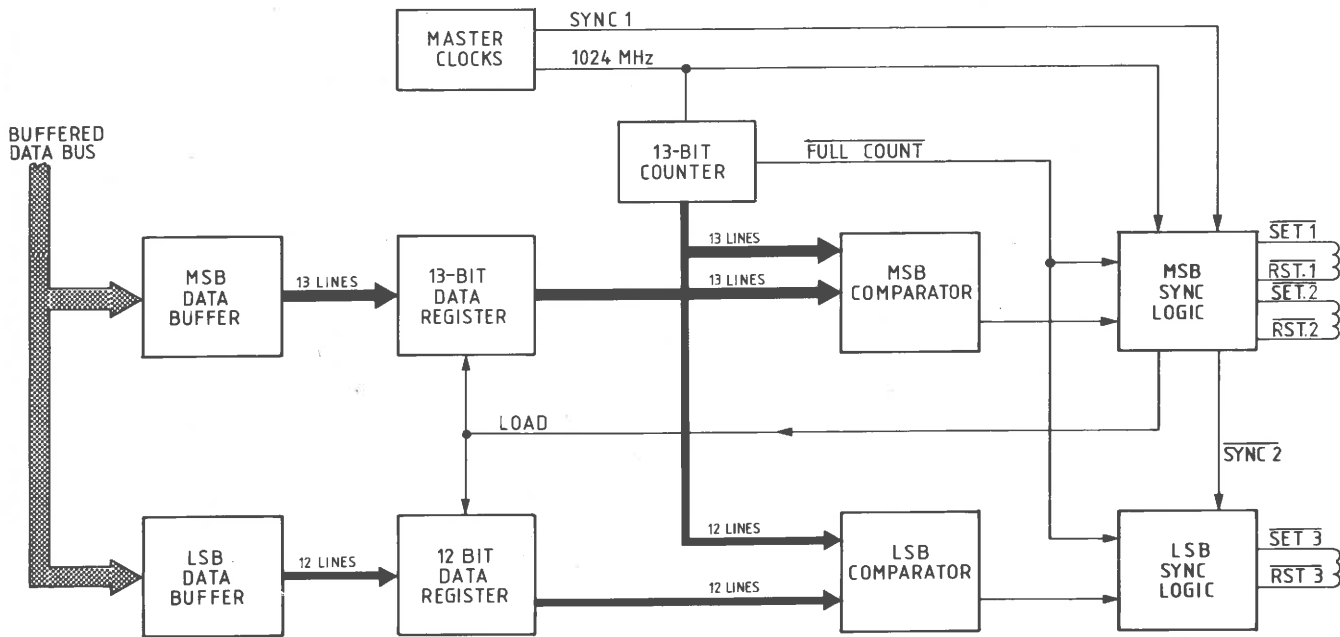

FIG. 4.22 PRECISION DIVIDER OUT-GUARD CIRCUITRY – SIMPLIFIED BLOCK DIAGRAM
4.6.1.2 Comparator Function (Fig. 4.22)